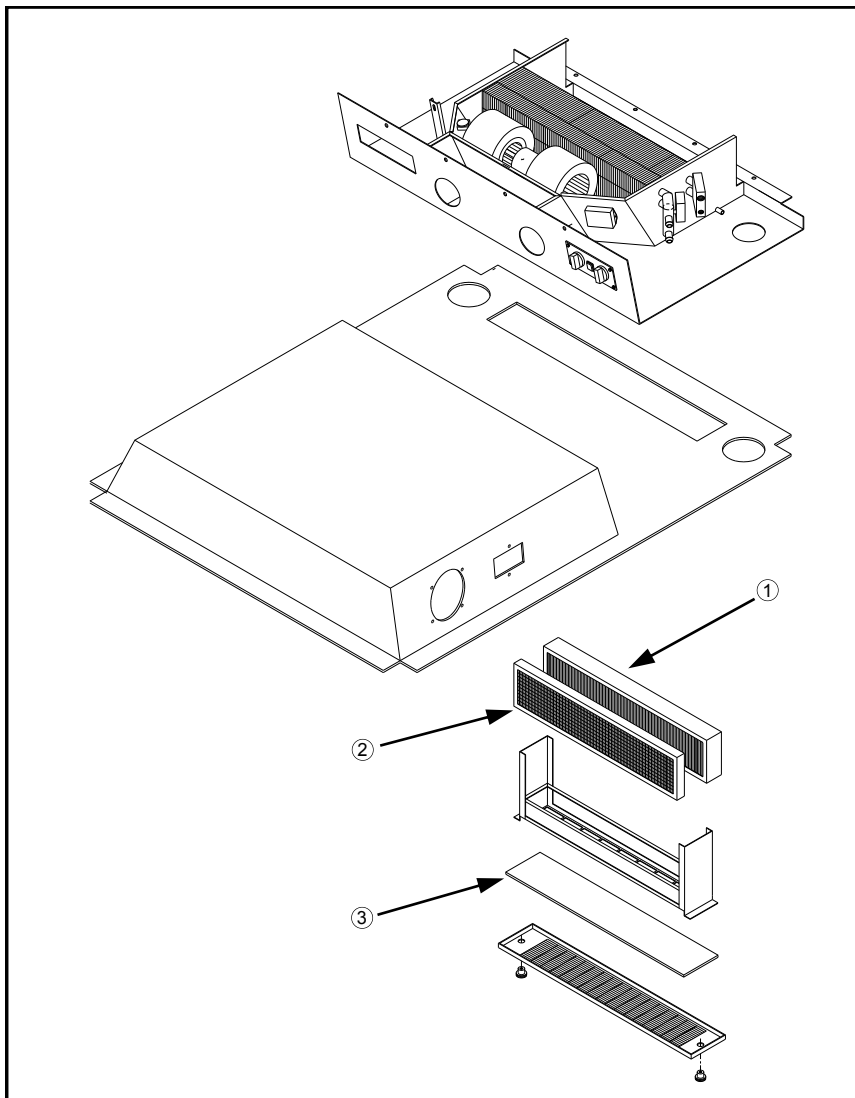

FIG 7.28
PAPER FILTER - (fig. 7.28, item 1) The paper filter should be cleaned once a year, or more often if necessary. Remove the paper element and gently tap it against a flat surface. Direct low pressure compressed air through the filter to remove larger particales. Replace the paper filter if necessary.
CHARCOAL FILTER - (fig. 7.28, item 2) Remove and replace at the first sign of chemical oder entering the cab.
(fig. 7.28, item 3) The recirculating filter may be cleaned with soap and water. Replace if it becomes worn.